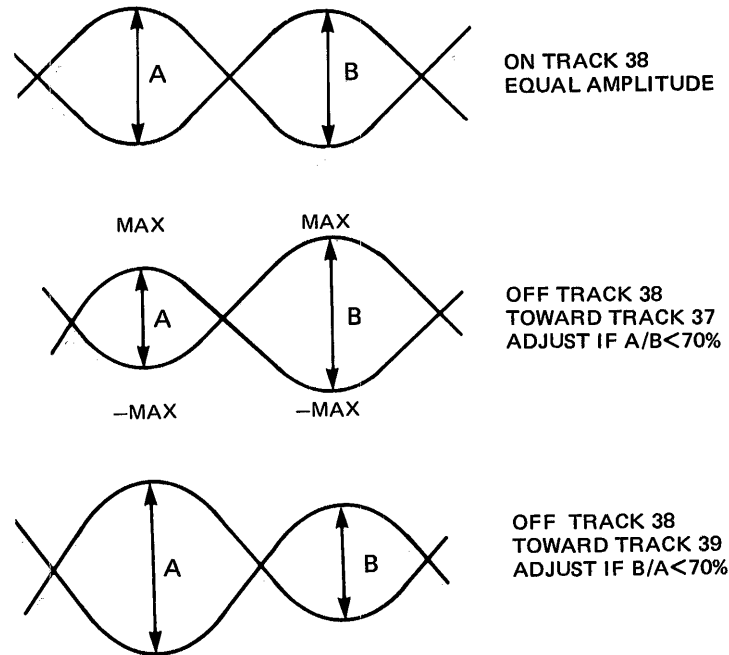

Figure 5-2. Head Radial Alignment Waveform
- c. Check the waveform (see Figure 5-2). The two lobes that are displayed should be within 70% of each other in amplitude.